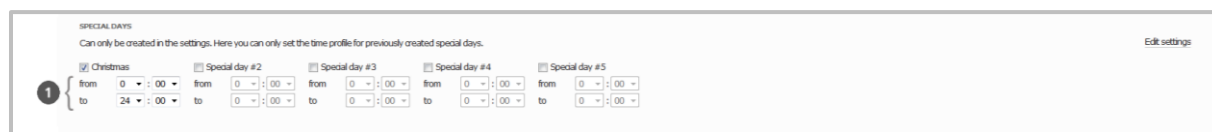

Figure 97: Assigning special days
- Click **Edit settings** (Figure 97: Assigning special days) in the **Time settings** field to configure special days.
You have ticked the "Christmas" special day ❶ (Figure 97: Assigning special days) .
The "Christmas" special days ❶ (Figure 97: Assigning special days) are not ticked.